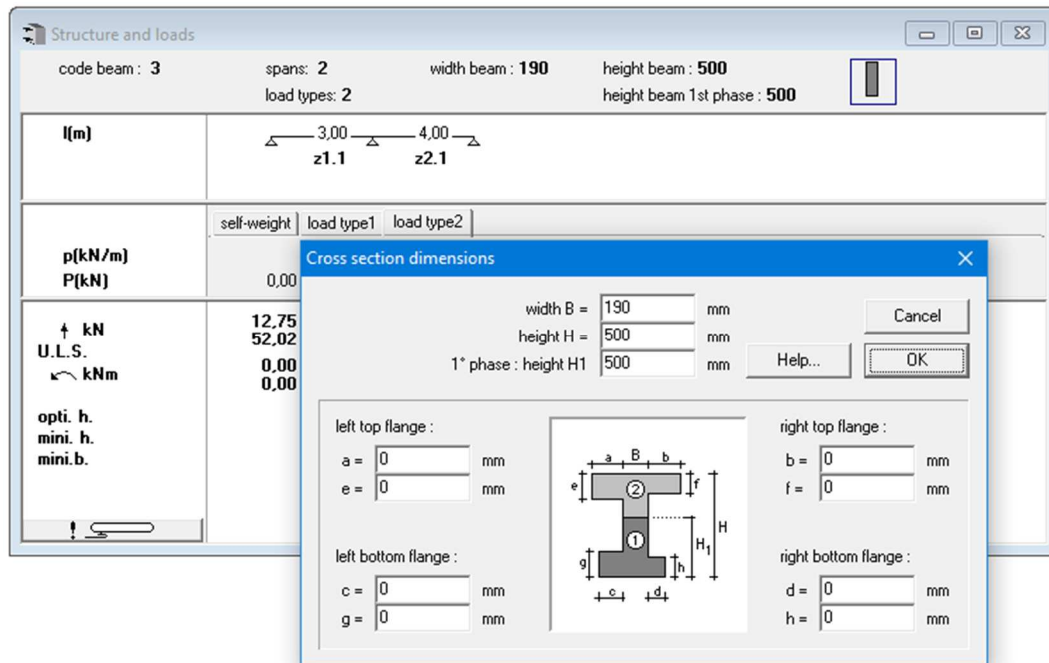

Figure 57: Details cross section dimensions
- In case a beam with constant section, it can be entered in the "**Structure and Loads window**" with the mouse clicking in the top right rectangle (Figure 57). This rectangle is the outline of the beam cross section.
- In case of a beam with variable sections, the section can also be added per zone by activating the variable sections feature (click on  which changes to ) and then by clicking on the section sketch below the relevant zone. Again the dialog Figure 57 appears, but now only valid for the one zone.